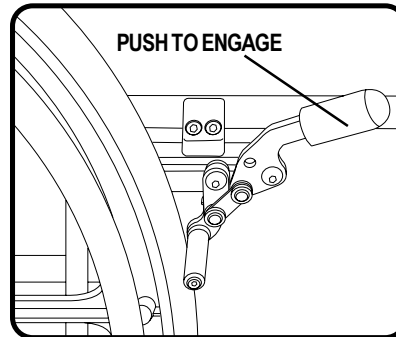

Figure 2. Right Park Brake Engaged (Push-to-lock shown.)
1. Engage both park brakes. See figure 2.
3. Make sure that both park brakes are engaged. See figure 2.